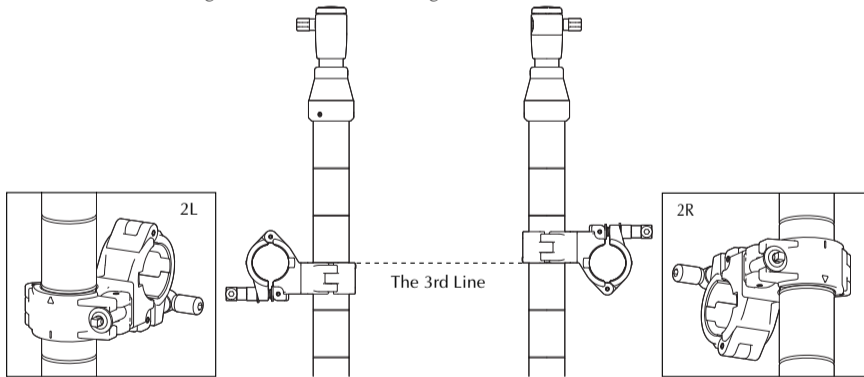

Fig. 2
- Insert the vertical pipe units into the leg unit clamps (J14T), and then tighten the T-nuts. Each vertical pipe unit has a cross-joint clamp (J30TS) in opposite directions. As the left leg, use the vertical pipe unit with the T-handle of J30TS at the bottom (seen from the drum throne), as shown in fig. 2L. As the right leg, use the vertical pipe unit with the T-handle at the top, as shown in fig. 2R. The vertical pipe units have guidelines for setting the horizontal pipe at the same height. As the factory standard, the third line is a suitable height for a 22-inch-diameter bass drum. With a guideline spacing of 5 cm (about 2 inches), the positions of J30TS can be changed as necessary. When changing the height of the horizontal pipe, be sure to set the triangle marks to the same guideline, as shown in fig. 2.